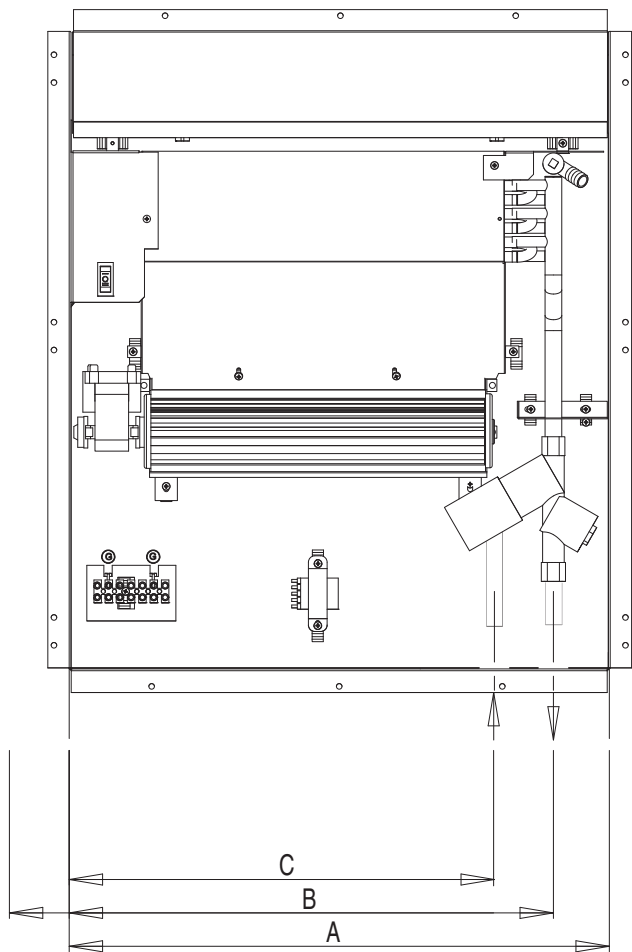

Fig. 3
- Once the connections to the heating loop are complete, the unit must be vented using the air purge valve. Fit a length of hose to the purge valve so that any water from the heating circuit escaping during the venting process can be directed to waste, see Fig 3. Open the air purge valve by loosening the screw.